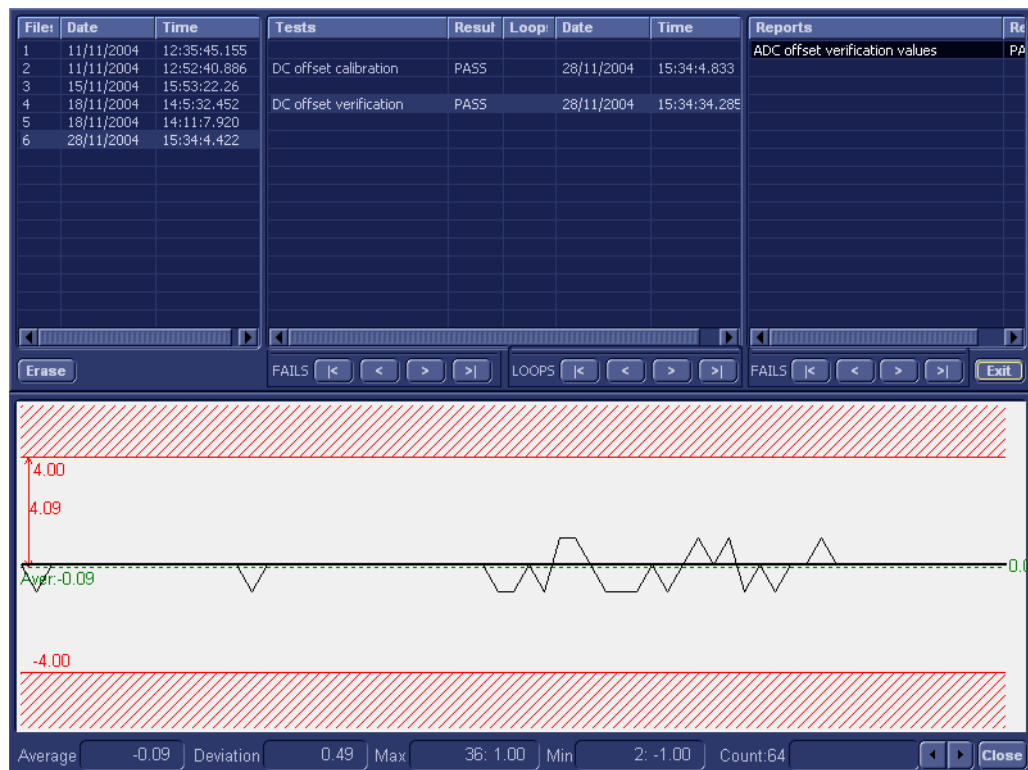

Figure 7-9 View Test Log - DC Offset Verification Test
- the View Test Log window opens automatically, listing all tests performed and showing details of which tests passed or failed, as shown in the example in Figure 7-9.
- 9.) Use the scroll arrows at the bottom of the Reports window (see Figure 7-9) to scroll through the channels and view the corresponding results.